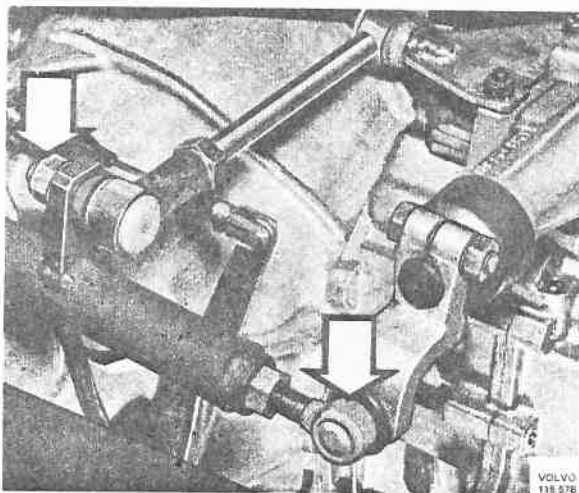

Fig. 33-5. Removing the gear lever control ball joints
3. Remove the gear lever control ball joints from the gearbox and lift up the control tube, Fig. 33-5.